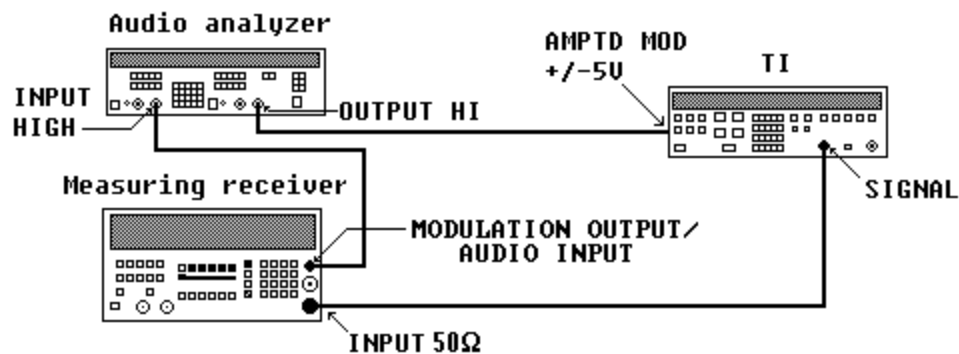

Figure 2. AM distortion - equipment setup.
(1) Press keys and enter values using **DATA** keys as listed in (a) through (i) below:
(2) Connect equipment as shown in figure 2.